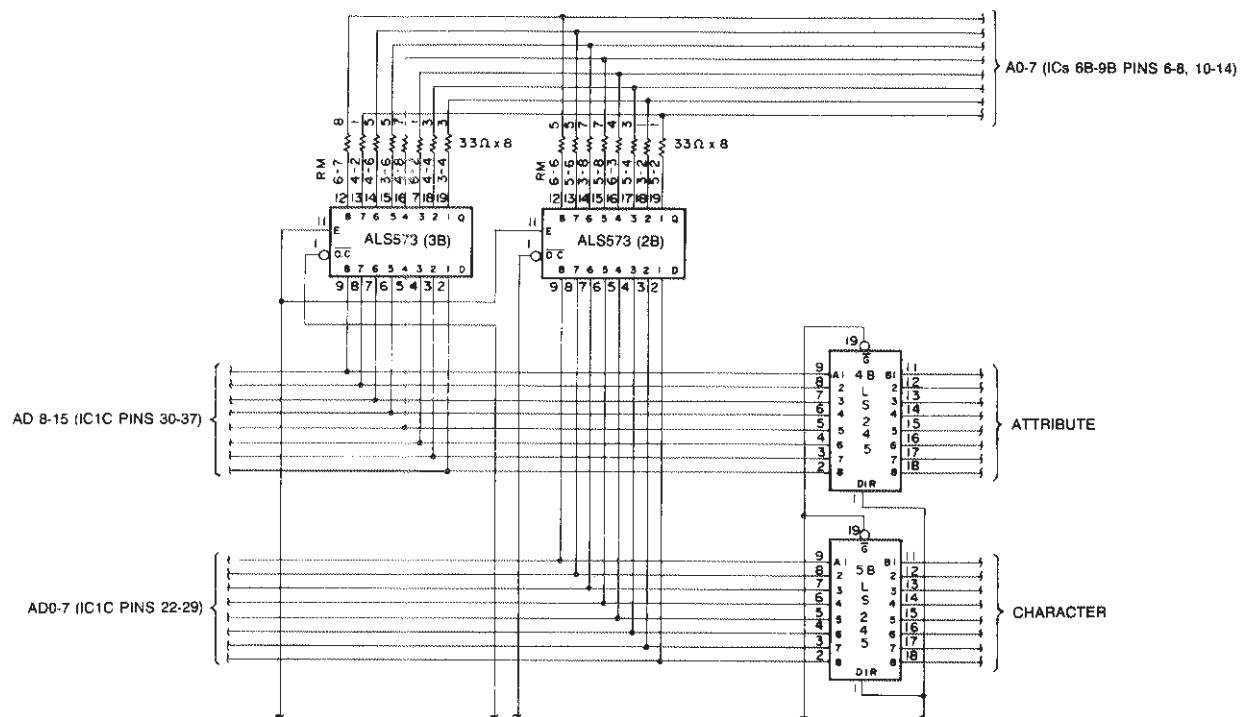

FIGURE 2-80. APX-IGGS VRAM CIRCUIT
2.4.5 VRAM Memory Circuit (Figure 2-80)